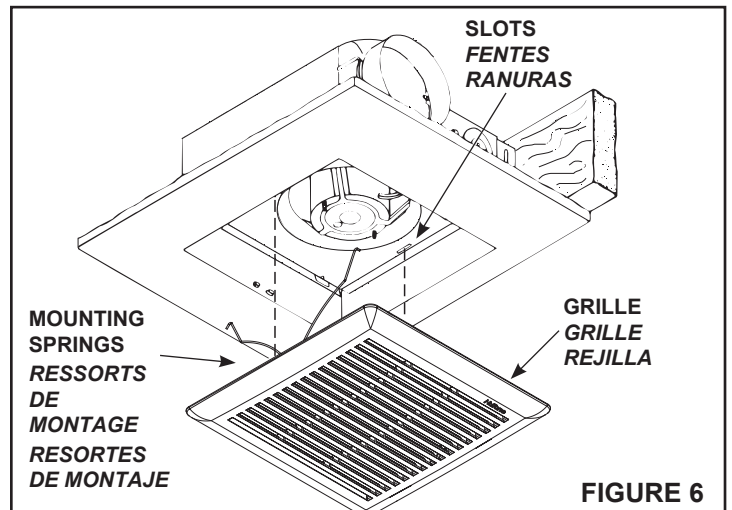

FIGURE 6
1. Refer to Figure 6. Squeezing grille's mounting springs together, insert springs into slots on both sides of the housing.